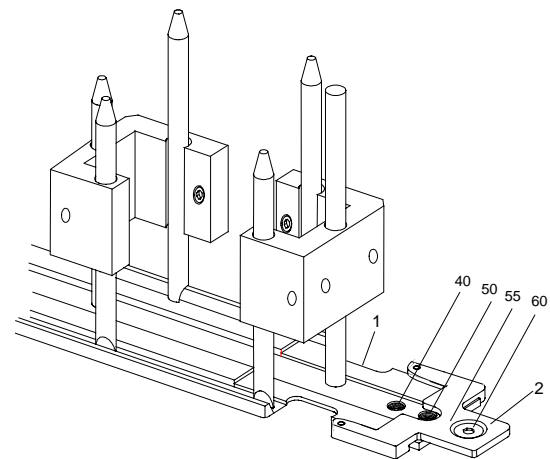
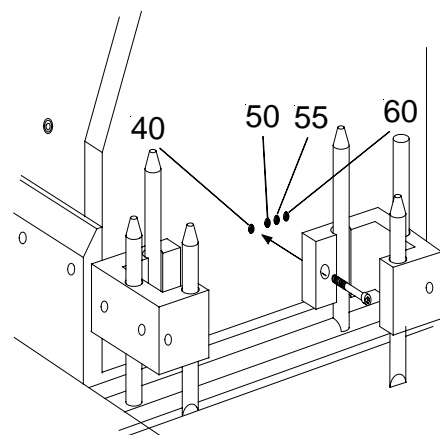

Fig. 15b
Fig. 15c
2. A clasp (fig. 15b.2) for the fixation of the removed coverglass is placed on the coverglass carrier plate. Remove the clasp by loosening the fastening screw via a hex head wrench (size 2,5).
Select the respectively marked clasp and insert it in a way that the guide pins fit into the last pair of holes. Insert the fastening screw into the thread corresponding with the selected coverglass (see fig. 15b). Then tighten the screw.
3. The coverglass magazine must also be adjusted to the new coverglass size. For this loosen the fastening screw on the front part of the coverglass magazine (fig. 15c) and remove it. Move the carrier plate until the springs (fig. 15b.1) on the guide plate allow pulling the magazine part off without colliding with the metal pins. Place the magazine part into the desired position and tighten it again.